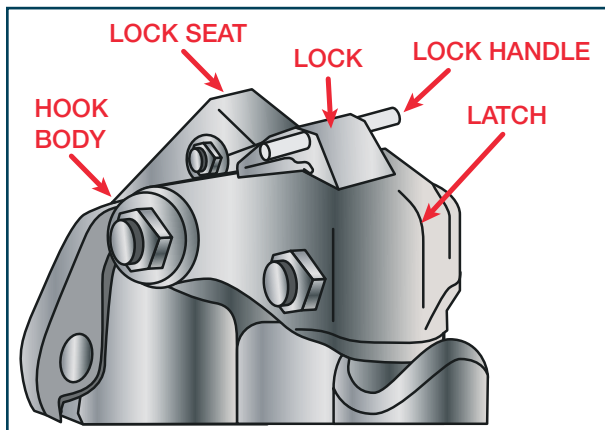

Figure 6.9
- Lift the lock handle away from the vehicle until the lock clears the lock seat on the hook body. Open the latch by rotating the latch assembly up toward the vehicle until the latch is in its most upright position, then release the lock handle. (Figure 6.9 and 6.10).